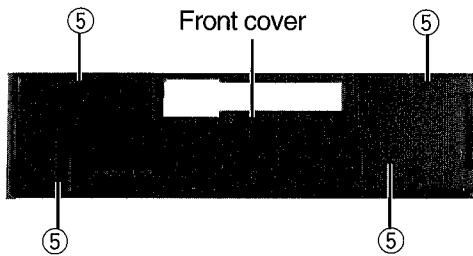

Fig. 9
**■ Removing the Operation Switch board ( See Fig. 9~13 )**
3. Remove the four screws ⑤ retaining the front cover.
5. Insert and disengage ⑥ the two engagements to the screwdriver.
7. Insert and disengage ⑨ the one engagements to the screwdriver.
9. Insert and disengage ⑩ the two engagements to the screwdriver.